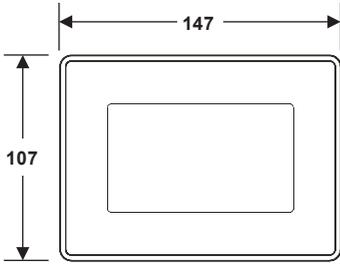

Fig. 2a
- Provide a control panel cut-out with the dimensions indicated in Fig 2a and 2c.